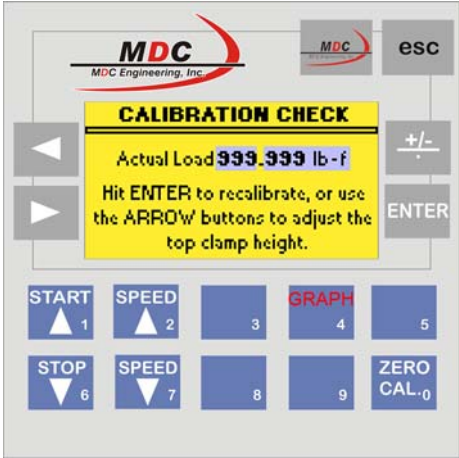
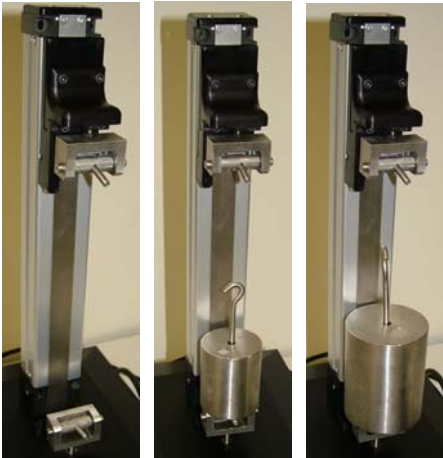

Figure 11: Calibration Check Screen
Figure 12: Checking the Calibration (Linearity check at 0lb, 2lb, 5lb)
4. At this point the linearity of the measurements may be tested by placing different known weights on the lower clamp, and comparing the theoretical values to the readout on the screen (Figure 11., Figure 12.).